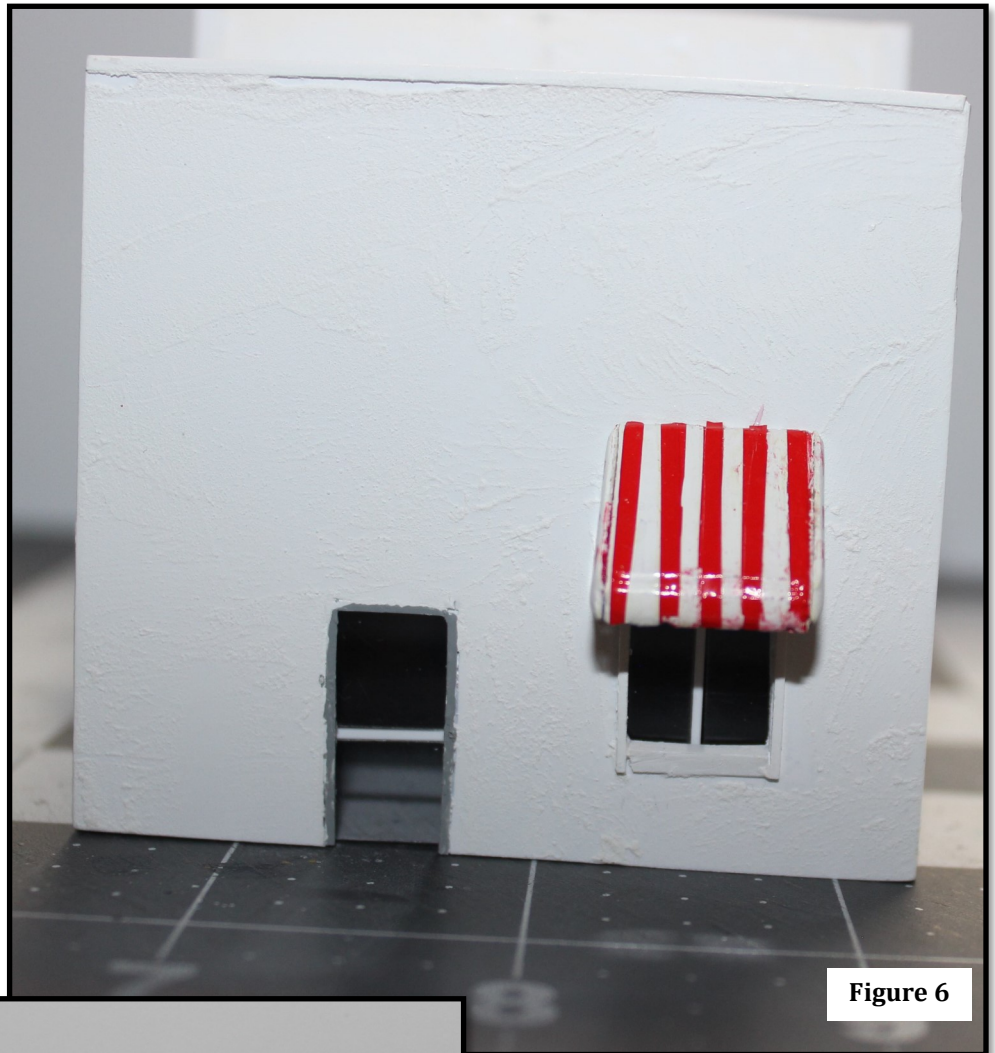

Figure 6
I had taken many photos of the business and, having obtained reasonable replicas of the signage, I used two (2) of these for the signs (**Figure 6**).